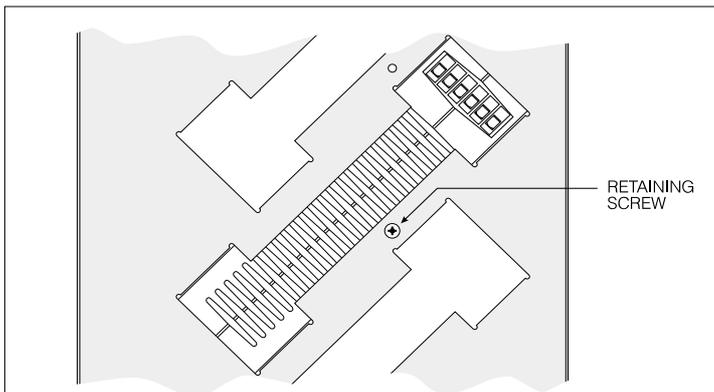

Fig.1-1: Location of retaining screw.
4. Remove the locking screw (if fitted) from the left-hand side of the module (see Fig.1-1).
2. If required, secure the module to the *STACKER* by inserting a suitable retaining screw on the left-hand side (see Fig.1-1).